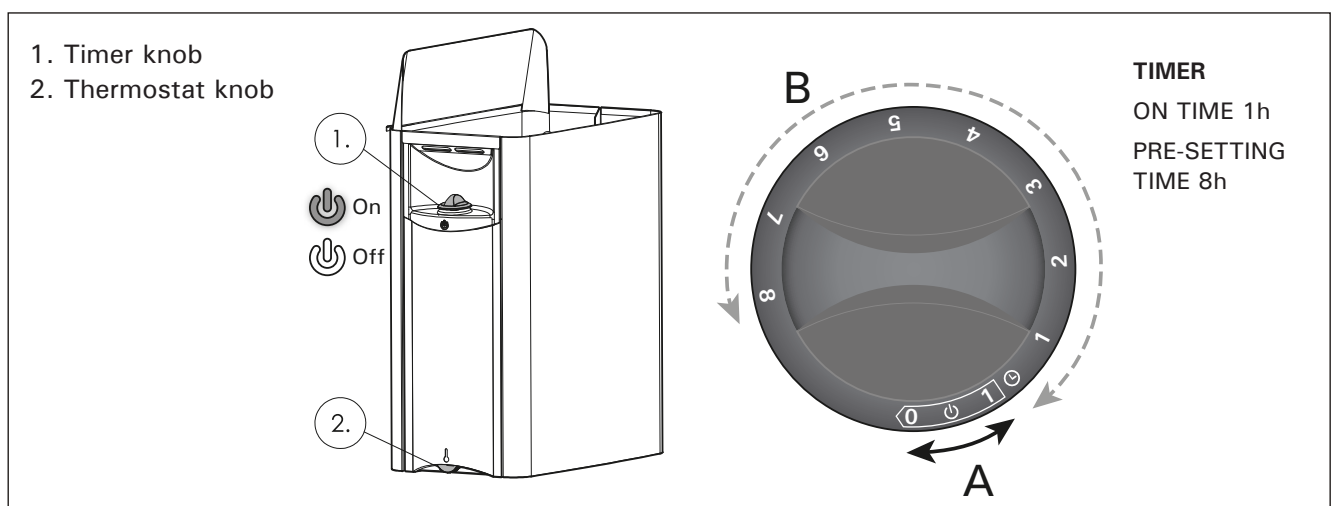

Figure 2. Knobs
Turn the timer knob clockwise to the "on" section (section A in figure 2, 0-1 hours). The heater starts heating immediately. Allow at least 30 minutes for sauna room to warm up to the average Sauna temperature.
To preset heating time, turn the timer knob clockwise to the preset section (section B in figure 2, 0-8 hours). The heater will turn on, when the preset time has passed and the timer has turned to the "on" section. The heater will stay on for approximately one (1) hour. The lights are lit also during the preset time.
The purpose of the thermostat (figure 2) is to keep the temperature in the sauna room on a desired level. By experimenting, you can find the setting that suits you best.